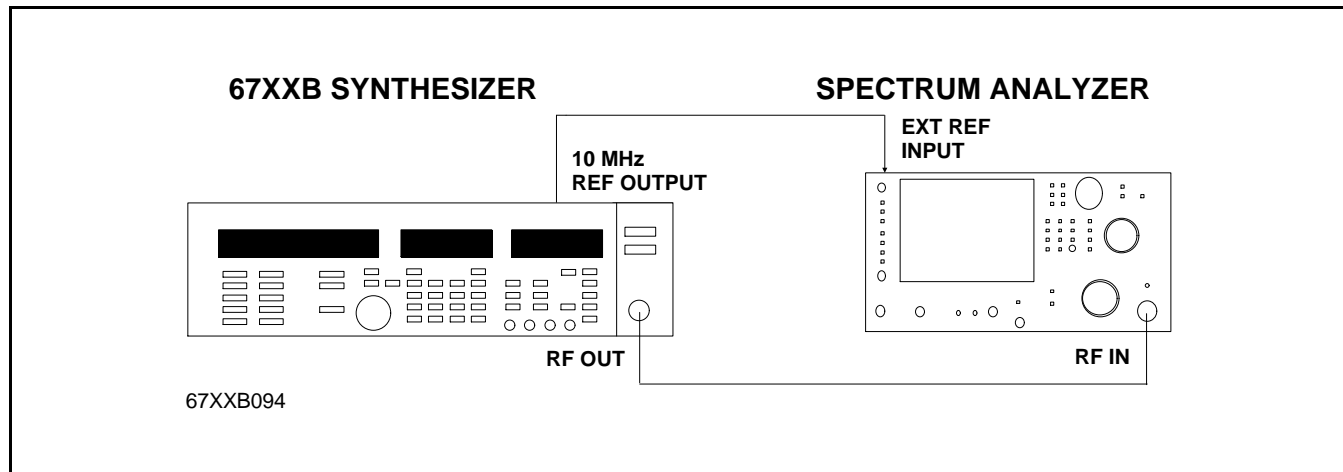

Figure 2-22. Equipment Setup for Pulse Modulation Test: RF ON/OFF Ratio (0.01 to 20 GHz)
1. Connect the equipment, shown in Figure 2-22, as follows: